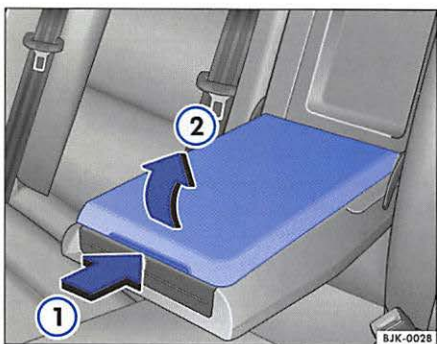

Fig. 56 Open storage compartment in the rear armrest
- Press the storage compartment release catch ⇒fig. 56 ①.
- Lift the storage compartment lid ②.